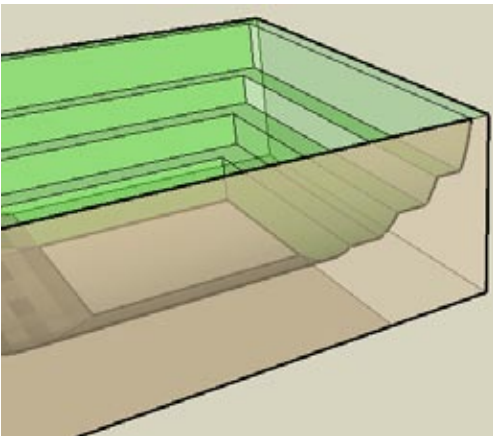

Figure 4-59
13. Hide the fence group and run Intersect with Model on the arcs and steps. Then trim away all the extras. Check in X-Ray or Wireframe mode to be sure all extra edges are erased (Figure 4-59).